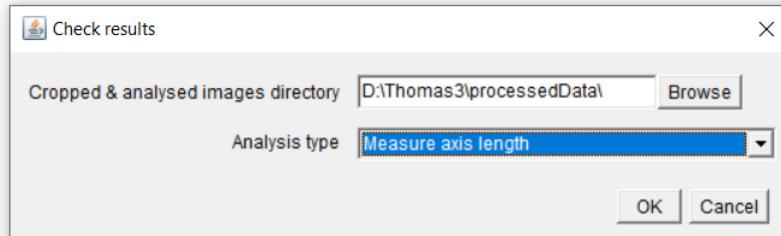

Figure 4.5. The check results menu
STEP 8. To control the analysis accuracy, whenever the save ROIs option was selected, use the “Start checking results” in the main meiosis bar. The “Check results” menu pops up (figure 4.5). If you just run the macro, then the default folder and method are OK. If you control afterwards the macro’s results, set both folder and “Measure axis length”.